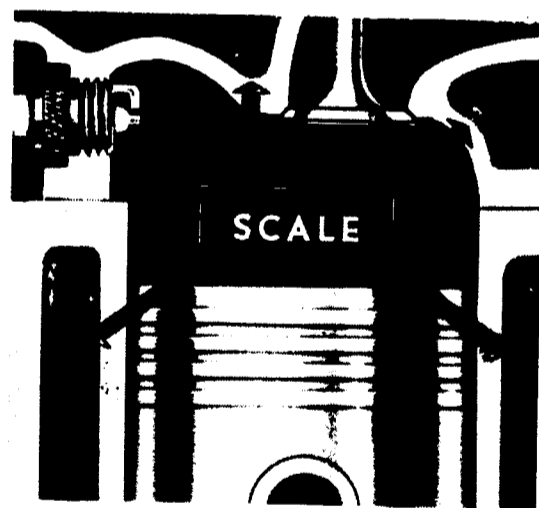

Fig. 2-77
4. Overheating of the fuel mixture before ignition causes knock. This may come from deposits of carbon inside the chamber, which prevent heat from being carried away, or from a dirty cooling system (Fig. 2-77), worn fan belt, plugged hoses, bad thermostat, or use of antifreeze in the summer. Anything that keeps the combustion chamber hotter than it should be can lead to knocking.